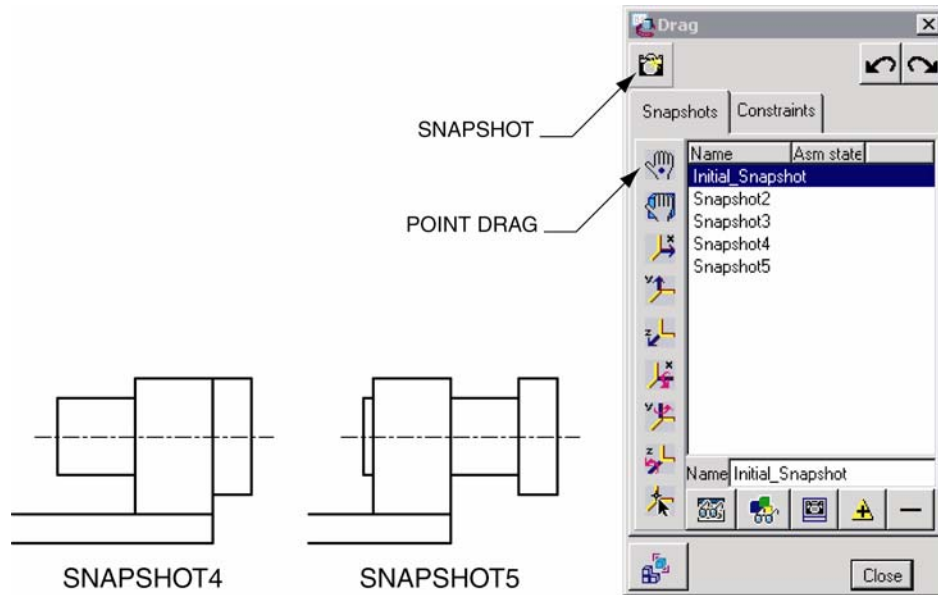

Figure 12-113: Snapshot Creation
The New Snapshot icon will launch the Drag dialog box (Figure 12-113). This dialog box is also accessible directly from the Animation dialog box.
Select the **POINT DRAG** icon then drag the adjuster part to the **SNAPSHOT4** position shown in Figure 12-113.
- Step 14:** Select the **POINT DRAG** icon then drag the adjuster part to the **SNAPSHOT5** position shown in Figure 12-113.